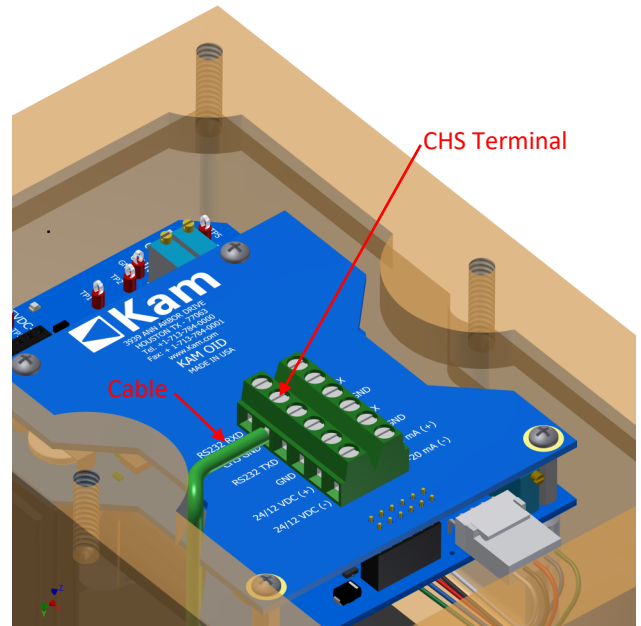

Figure 1.3.10
10. Install the exposed wire side of the Chassis Ground Cable Assembly on the terminal board left CHS connector. See figure 1.3.10.